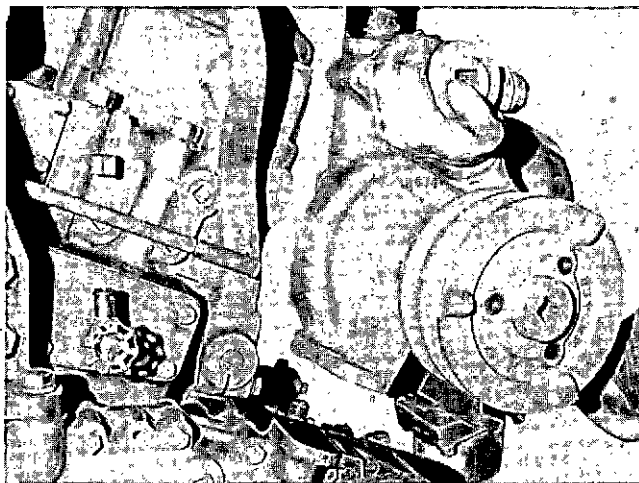

Fig 0-19, V40052. Removing water pump
5. Lift off water pump. Fig. 0-19.